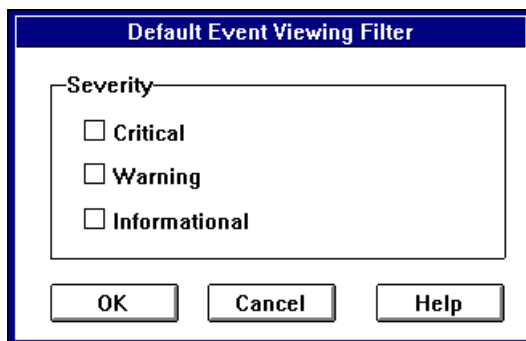

Figure 7-5. Default Event Viewing Filter Dialog Box
- 2 Click **Filter**. The Default Event Viewing Filter dialog box appears, as shown in Figure 7-5.